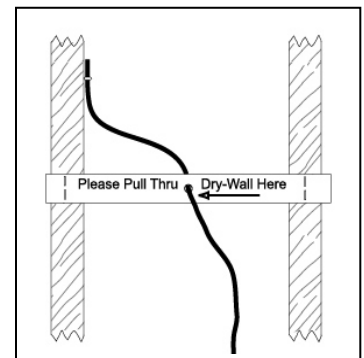

Figure 3
2. When pre-wiring, leave 4 to 6 feet of wire at the speaker's intended location. Use a strip of cardboard stapled to the joints/studs with a hole through it as a wire place holder for the drywall installers (see **Figure 3**).